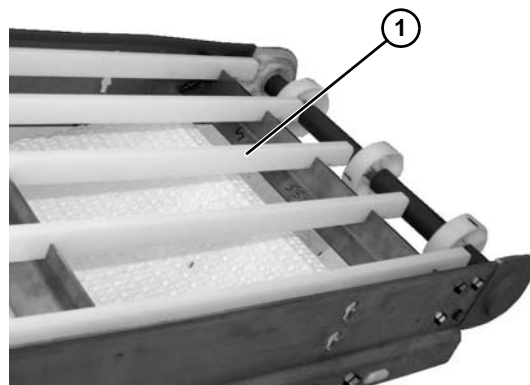

Figure 36
2. Remove worn wear strips (**Figure 36, item 1**) from frame notches.